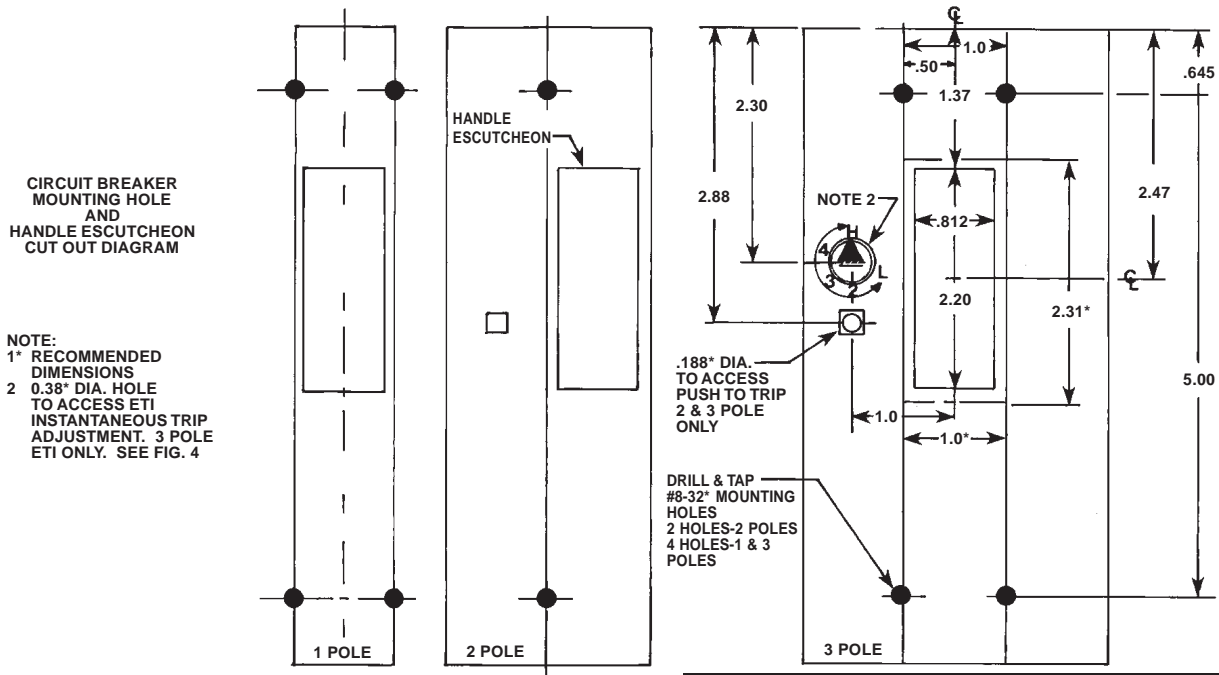

Fig. 2
2. For those applications where mounting is on a flat surface of the customers equipment, drill and tap mounting bolt holes according to the drilling plan in Fig. 2. For handle escutcheon cut out plans refer to Fig. 2.